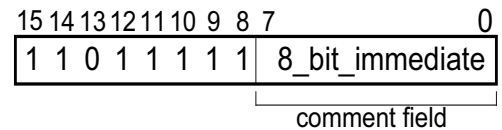

Figure 6-3 Thumb SVC instruction
- The instruction itself is 16-bit, and so requires a halfword load, see Figure 6-3.